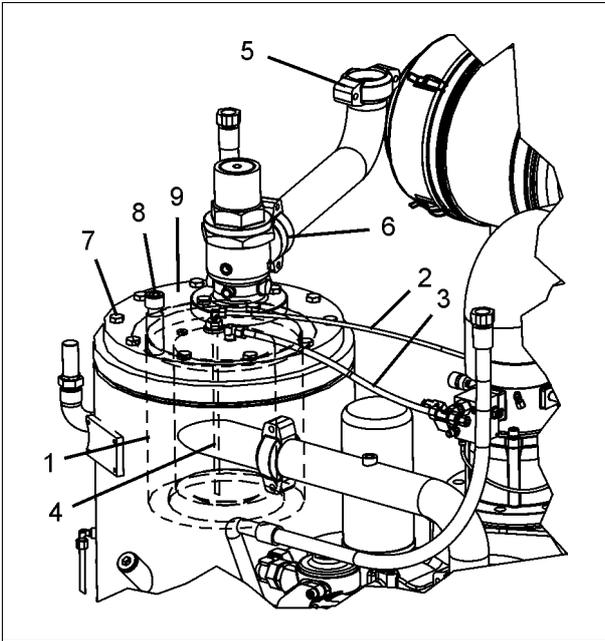

Fig. 21
- Loosen the plastic tube (- 2 - Fig. 21) of the oil extractor (- 4 - Fig. 21).
- Loosen the plastic tube of the control air line (- 3 - Fig. 21).
- Fully remove oil extraction with pressed in extraction tube (- 4 - Fig. 21).
- Remove all hexagon screws (- 7 - Fig. 21) on the circumference of the pressure reservoir's cover.
- The cheese head screw for lifting the reservoir cover (- 8 - Fig. 21) must be screwed in clockwise until the cover is lifted off by some mm.
- Swivel the reservoir cover by 180° (- 1 - Fig. 21).
- Remove used oil fine separator (- 1 - Fig. 21).
- Turn cheese head screw (- 8 - Fig. 21) counterclockwise until the reservoir cover is loosely lying on the pressure reservoir flange
- Tighten (clockwise) cheese head screw for lifting the reservoir cover (- 8 - Fig. 21) to protect it against unwanted turning